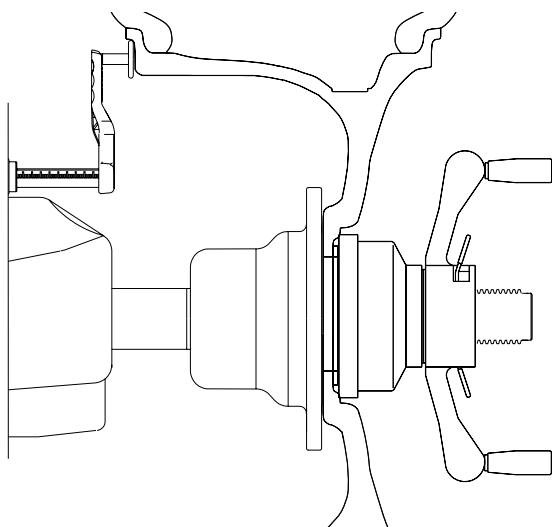

Figure 21
4.5.1 Distance (rim offset) - Grasp the offset gage arm at the end of the shaft and move outward to the edge of the rim, touch the pointer to the rim edge as illustrated in *Figure 21* and hold steady for about a second. Avoid flexing the measurement arm extension. The beeper will sound and the distance values will be entered automatically. Return the arm to its fully in and down position on the balancer. Do not allow the measurement arm to "dangle" down in front of the balancer.